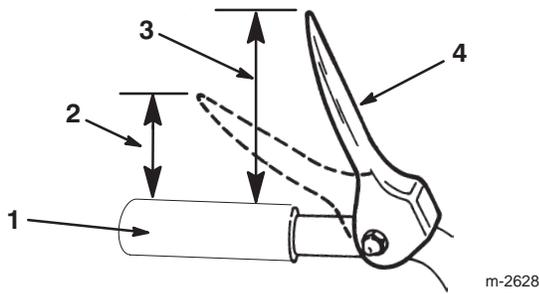

Figure 12
5. Check the distance between the top of the handgrip and the bottom of the auger/impeller drive control lever. The distance should be approximately 4 inches (10.2 centimeters) as shown in Figure 12.
Note: The amount of force needed to compress the lever increases noticeably when you remove the slack from the auger/impeller drive belt (approximately 1/2 the lever movement). The adjustment is correct when the force **begins** to increase and the distance between the top of the handgrip and the bottom of the auger/impeller drive control lever is 2 inches (5 centimeters) as shown in Figure 12.